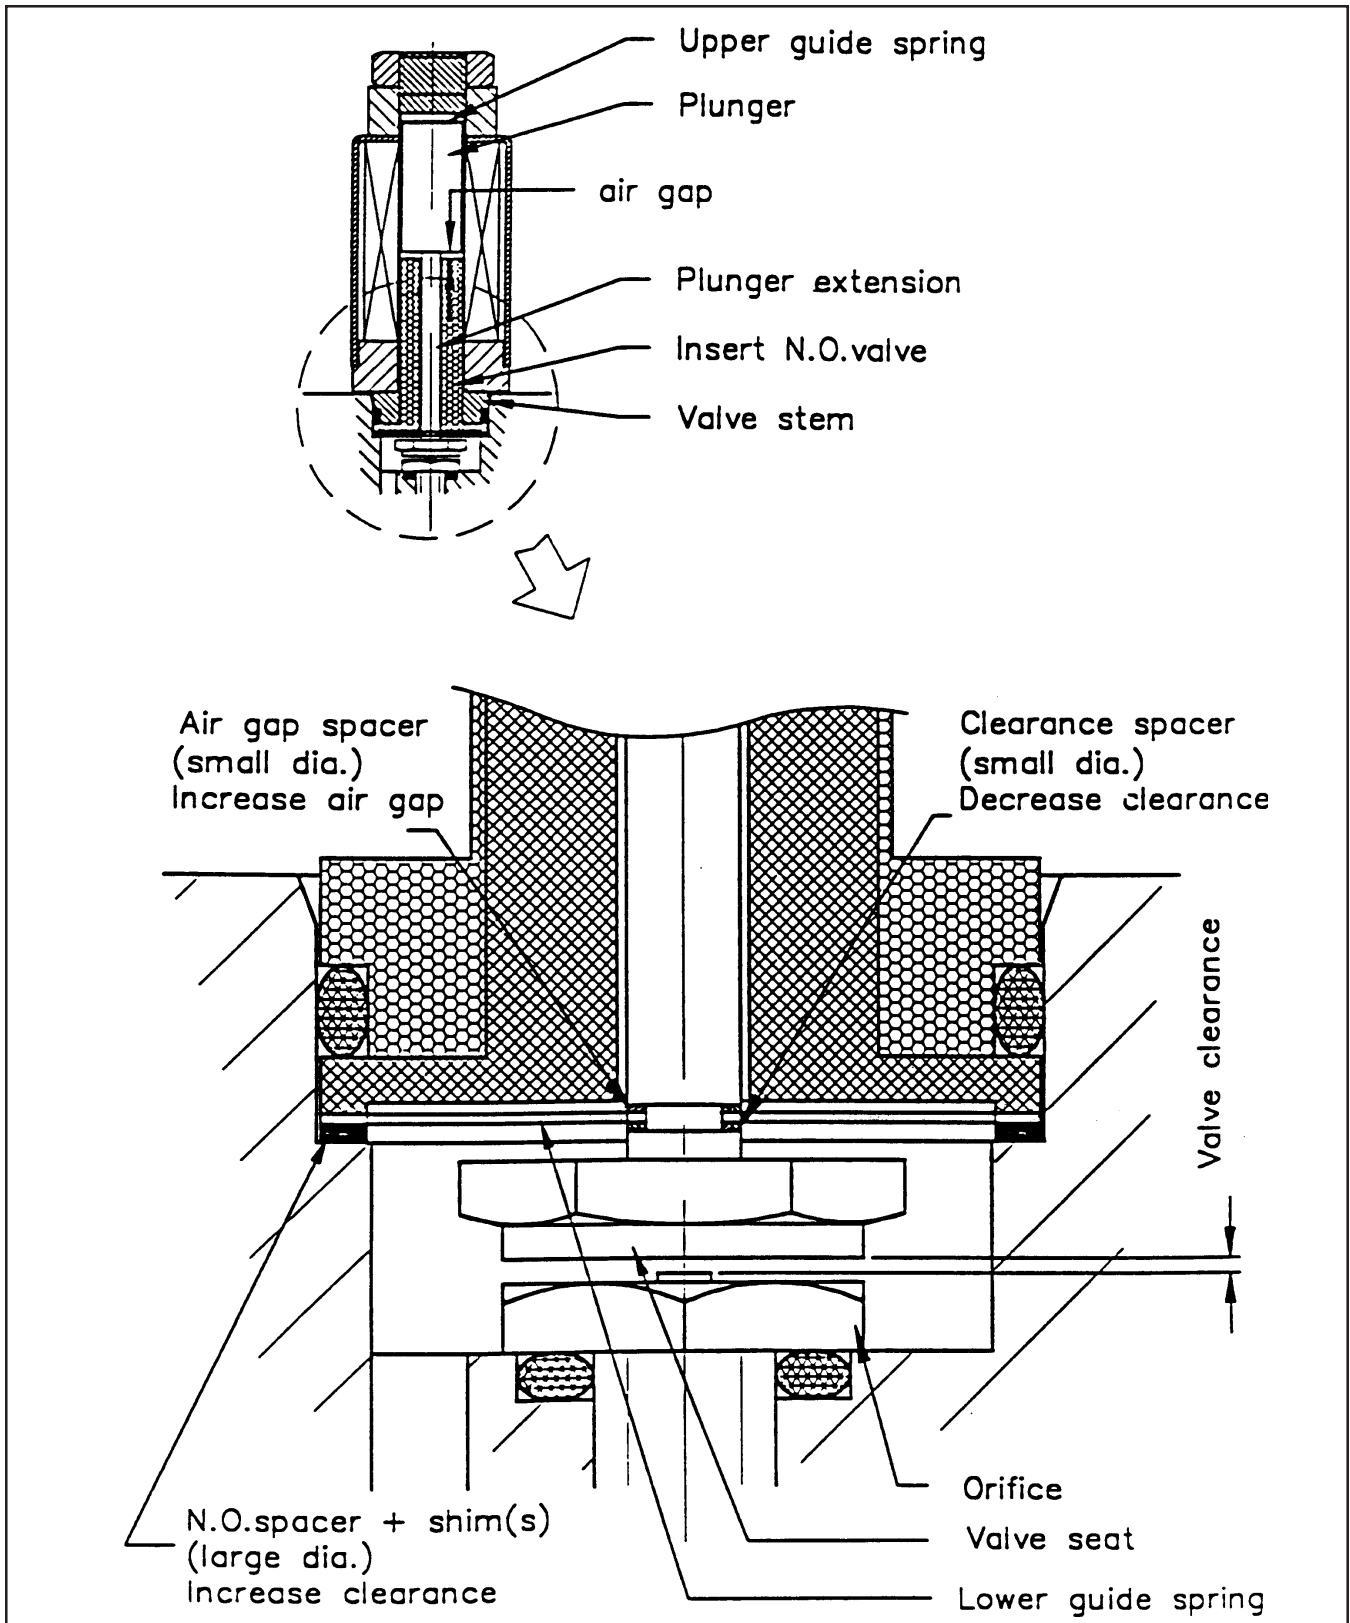

Figure 5-4 Valve Adjusting Spacer Locations, Normally Open (N.O.) Elastomer Sealed Valve
Refer to Figure 5-4 for spacer locations and nomenclature for the Normally Open (N.O.) type control valve. Refer to Section 7, spare parts for the spacer part numbers and the spacer kit part number. The valve clearance determines the maximum space between the orifice (12) and the valve seat (4). If the valve clearance is too small the controller will not achieve full flow. If the valve clearance is too large, the control valve will not close properly.
2. Remove gas pressure. Disassemble the control valve following the procedure given in Section 5-3, above. Note the orifice size, which is marked on the orifice face. Referring to Figure 5-4, note the number, location and thickness of all spacers.
7. If the flow is less than the minimum flow increase the valve clearance by adding a large 0.005" spacer above the spring spacer (45) and repeat Steps 5 and 6.